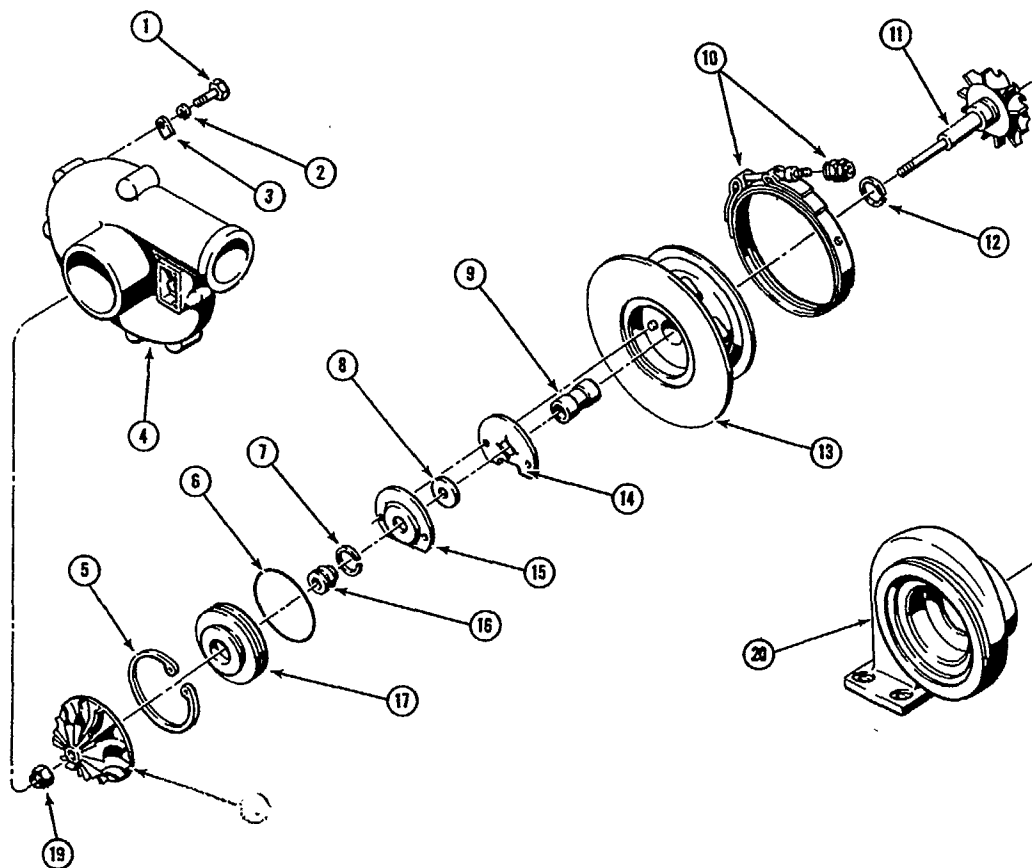

Figure 7
9. Remove the flinger sleeve, the oil deflector, the thrust ring, and the thrust bearing. Refer to Figure 7. Do not remove the two dowel pins from the bearing housing.
Refer to the exploded view illustration, Figure 7, and to the following Turbocharger Diagnosis Guide during the inspection and repair of the turbocharger parts.
Refer to Figure 7 for parts identification during assembly.